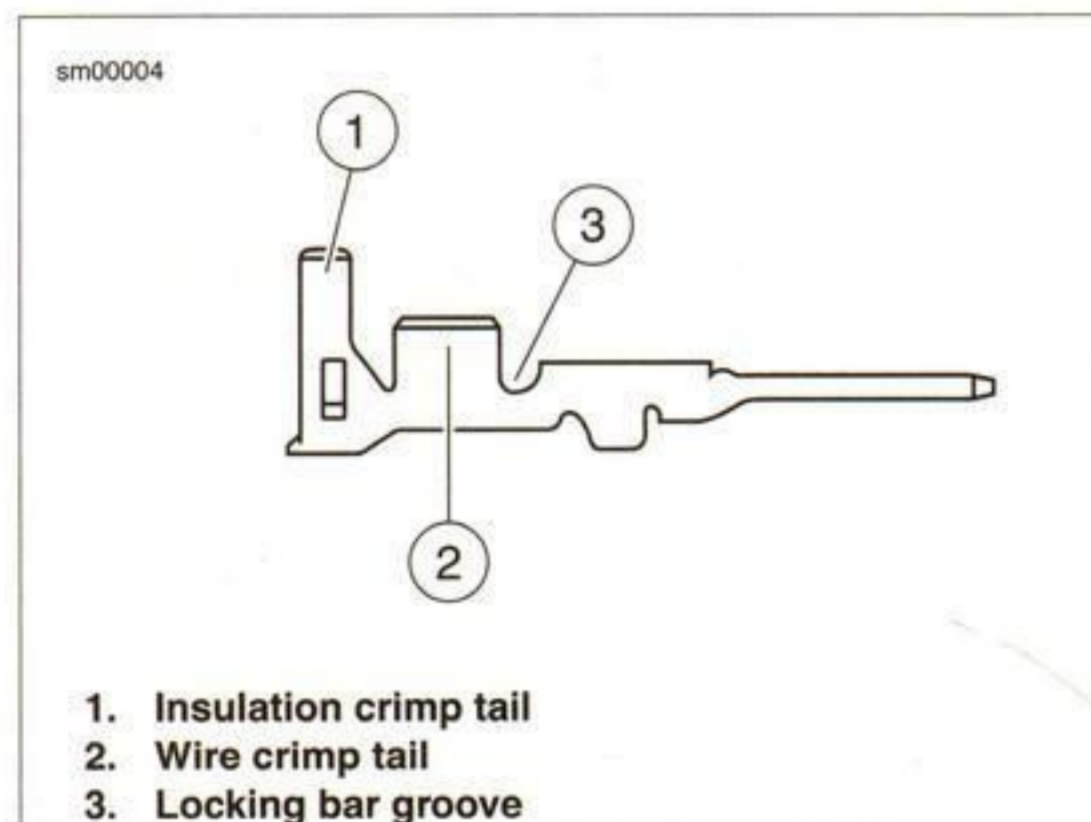
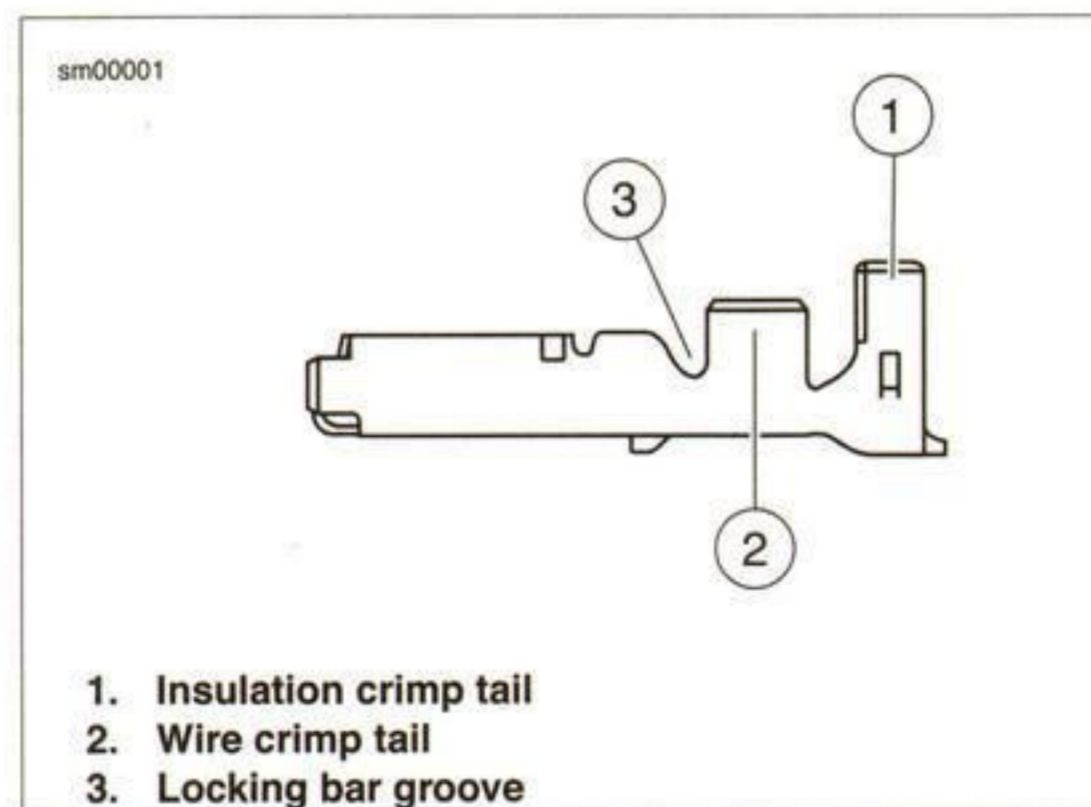

Figure A-4. AMP Multilock Connector: Pin Terminal
Figure A-5. AMP Multilock Connector: Socket Terminal
2. See Figure A-4 and Figure A-5. Select the pin/socket terminals from the parts catalog and identify the insulation crimp tails (1) and the wire crimp tails (2) and the groove for the crimp tool locking bar (3).
See Figure A-4 and Figure A-5. Hold the terminal with the insulation crimp tail (1) facing up. The tool will hold the terminal by the locking bar groove (3) and crimp the wire crimp tail (2) around the bare wire of the stripped lead and the insulation crimp tail around the insulation.